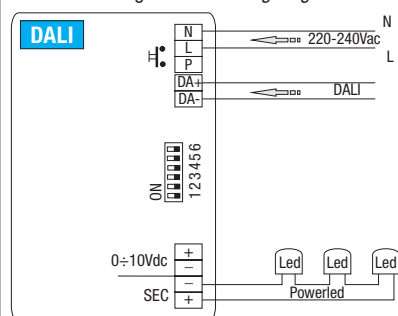

Fig. 2 - RN9168/DALI - RN9168AV/DALI
B - Funzione 0-10Vdc (S10) - DIM34... (R) - Fig. 2 - Tramite segnale di controllo 0-10Vdc
B - 0-10Vdc (S10) function - DIM34... (R) - Fig. 2 - By means of control signal 0-10Vdc